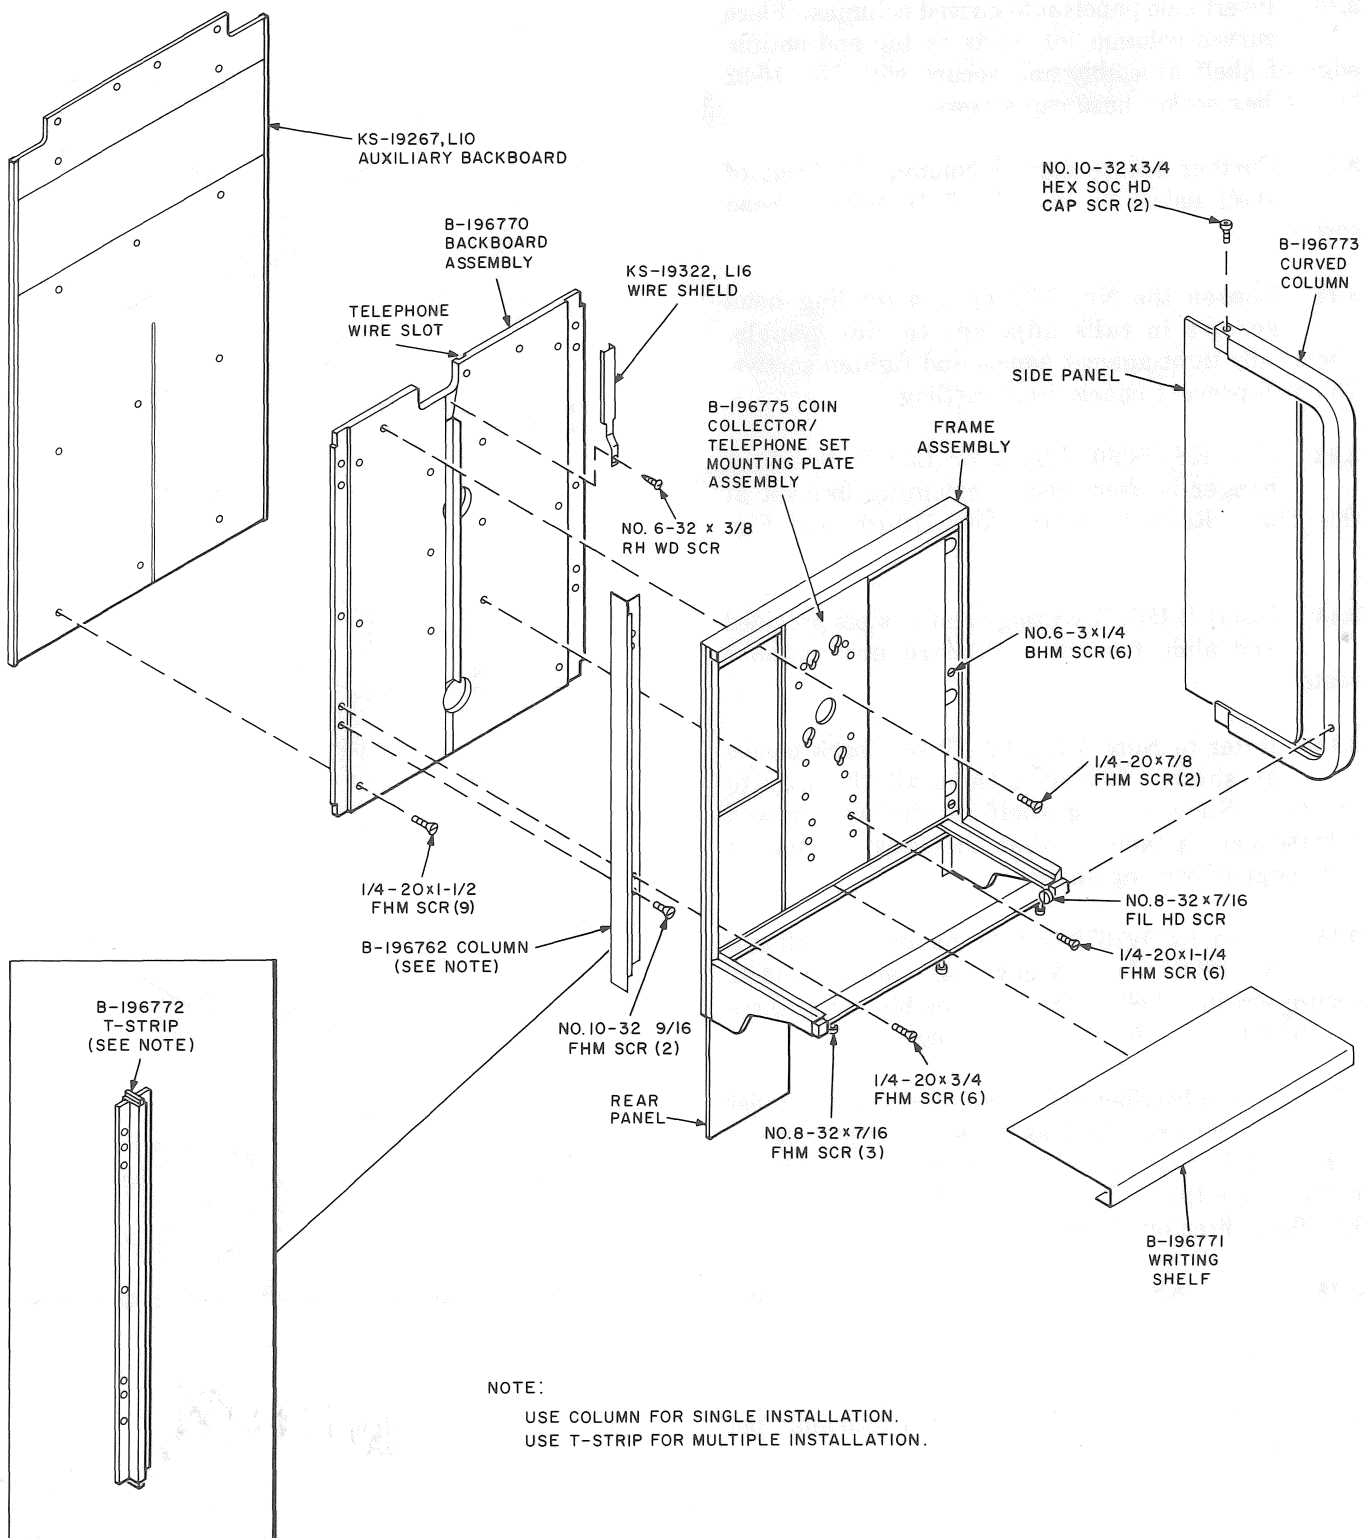

Fig. 7—Assembly of KS-19267 Shelf
3.03 Secure B-196770 backboard assembly to List 10 auxiliary backboard, if applicable, using nine 1/4-20 by 1-1/2 FHM screws (Fig. 7).
3.04 Install KS-19322 sign if applicable and cover exposed electric power cord between sign and shelf with KS-19322, List 16 wire shield (Fig. 7).
Where multiple units are installed, a B-196772 T-strip will be used to join two shelves together. This T-strip will replace the side column. T-strips are furnished as part of KS-19267, List 2 and List 4 shelf assemblies (Fig. 7).
(b) Remove the following per Fig. 7: